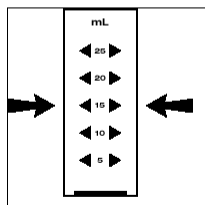

Figure 1
1. Fill the sample cup to the 25 mL mark with the sample (**fig. 1**).